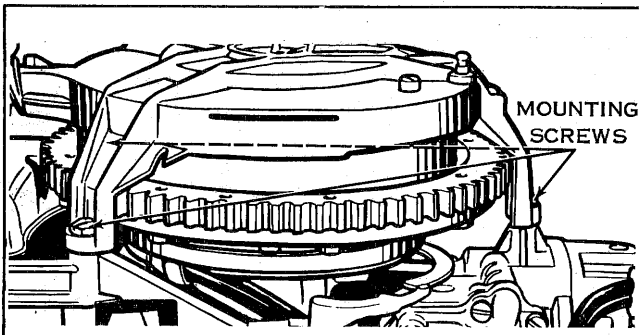
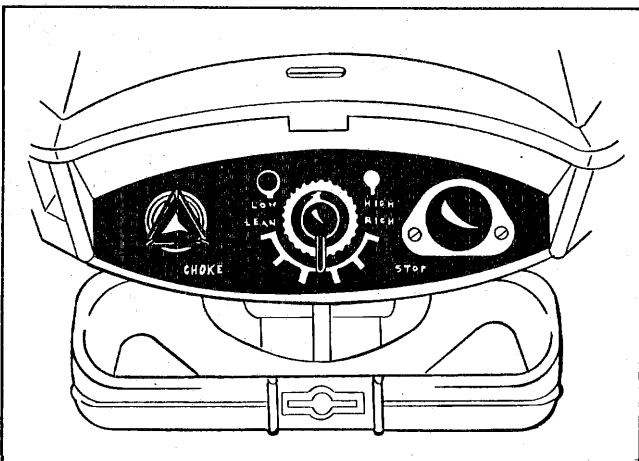
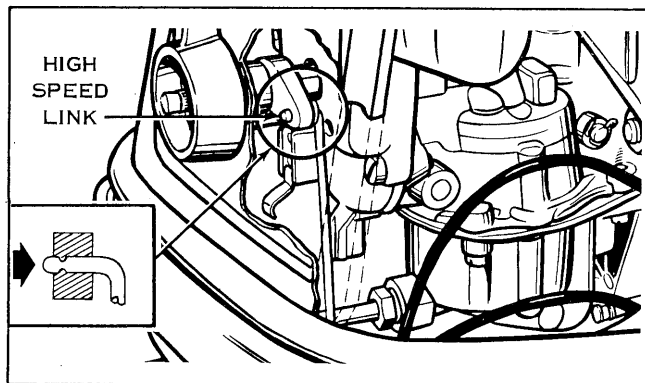

FIGURE 1
FIGURE 2
FIGURE 5
Install the junction box on boat transom or suitable location, within dimensional limits shown on Figure 2. It is important that the junction box base is mounted in a vertical plane (vertical within  $\pm 15$  degrees). Note alternate positions that may be used with junction box still in vertical position. Make sure that placement will not interfere with other remote controls, such as steering or throttle cables. Also make sure that the junction box cover can be removed for inspection or motor removal. Remove junction box cover and fasten junction box base to the boat with three of the wood screws included in the carton. See Figure 1. If boat is metal, junction box should be well insulated from boat. A piece of wood larger than the junction box and approximately 3/4" thick will make a sufficient insulator. Be sure junction box attaching screws do not go through the block and make contact with the metal of the boat.
Plug motor cable assembly connector into junction box connector (Figure 1). Red cable attaches to solenoid switch wing nut terminal and black cable to negative battery cable wing nut terminal. Note side of
Install the battery near the junction box. See Figure 5 for preferred locations and limiting dimensions. **IMPORTANT:** Do not place battery directly under front carrying handle of motor. When motor is tilted battery may be damaged. For mounting the battery, use a frame or box securely fastened to the boat. A loose battery may shift in the boat, damaging battery or other equipment. If a battery box and cover are used, drill two vent holes (3/16" will do) on each side of the cover to allow battery gas to escape. This gas is explosive when confined. **CAUTION:** Connect the positive battery lead (RED) from the junction box to the positive (+) battery terminal. Attach negative lead (BLACK) to negative (-) battery terminal. See Figure 1. Tighten connections securely. For service information for the battery, refer to instructions provided by the battery manufacturer. Fuses for accessory take-off and generator are in the junction box.
2. Remove the three mounting screws holding manual starter to powerhead and lift off the complete starter assembly. See Figure 1.
3. Remove carburetor controls and silencer assembly, if so equipped, as follows: Models having carburetor controls as shown in figure 2, proceed as follows:
- 3e. Disconnect the upper end of high speed link (pry off with screwdriver) figure 5. Remove the two air silencer plate screws with offset screwdriver. Remove air silencer plate.
3h. Disconnect the upper end of high speed link (pry off with screwdriver) figure 5, then remove slow speed packing nut. High speed knob, choke knob and control panel can then be removed as a unit.